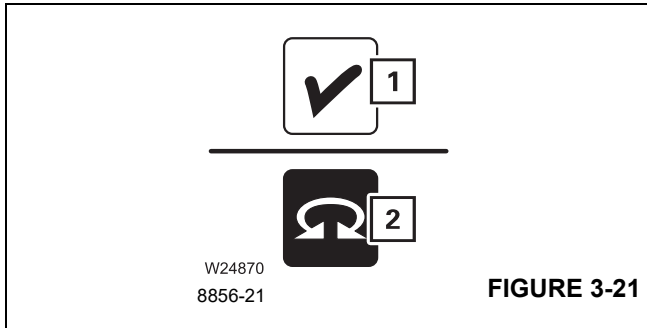

FIGURE 3-21
Regardless of whether the background (1), (Figure 3-21) of a symbol is red or whether only parts (2), (Figure 3-21) of a symbol are red. This applies to all symbols and all colors.